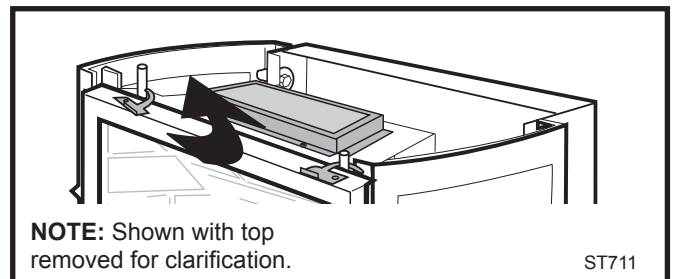

Fig. 16 Rotate cams into place to hold glass frame assembly in place.
8. Install glass frame assembly by resting the bottom edge of the frame on support brackets below the front opening of the firebox. Rotate the top edge of the assembly toward the firebox, and center it. Fasten by "rotating" the cams over the top left and right edges of the frame. (Fig. 16)